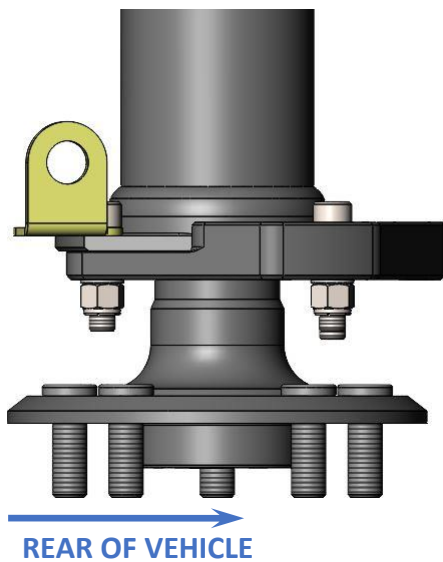

Figure 2c – TOP VIEW Primary Caliper Bracket Installed
- Reinstall the axle shaft into the axle housing. Follow this by installing the supplied 3/8"-24 x 1.500" Socket Head Cap Screws (p/n: DB1515 or DB1517) or the 1/2"-20 x 1.500" Button Head Cap Screws (p/n: DB1516) into the axle housing. Make sure that the 2 forward most bolts go through the supplied Brake Hose Mounting Brackets. These brackets are left and right specific and are designed so the tab faces inward to the vehicle. With the bolts in place, slide the Primary Caliper Bracket over the axle shaft and onto the bolts. **NOTE: The Primary Caliper Brackets are left and right specific and designed to position the calipers towards the rear of the vehicle.** See Figures 2a and 2b below for bracket orientation and installation. Install the AN washers and Nylon Lock Nuts and torque all bolts (the 3/8"-24 bolts torque to 40 lb/ft and the 1/2"-20 bolts torque to 75 lb/ft). Refer to Figures 2c and 2d below for what it will look like properly installed.